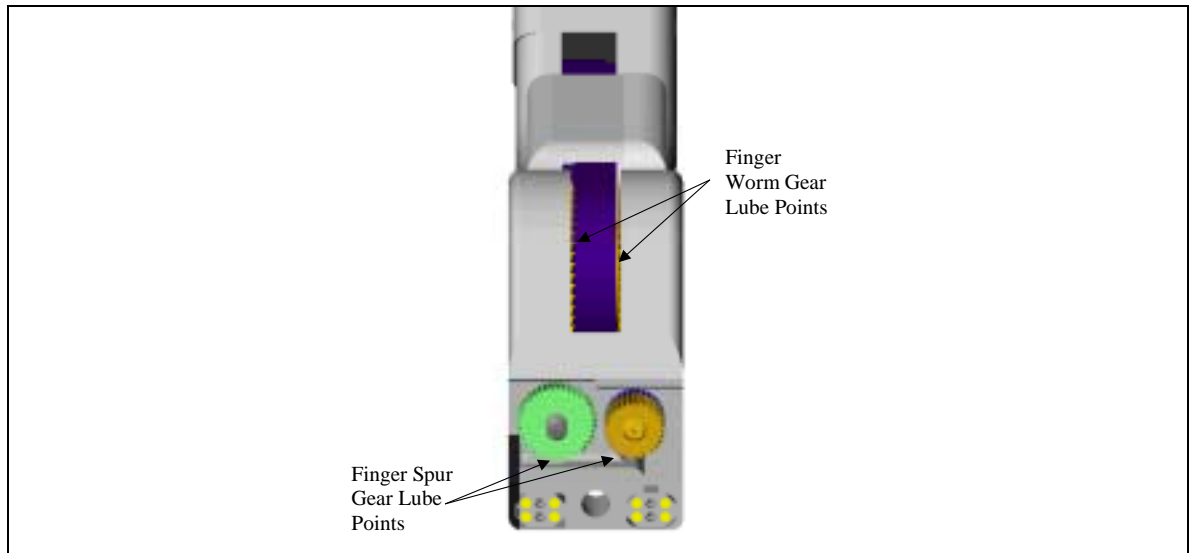

Figure 11 - Lubricant Application Points
Each BarrettHand™ unit has been lubricated and tested prior to shipping. Periodically, lubrication must be reapplied to areas with high probability of lubricant flow. Use the grease syringe to apply Mobil 1® Synthetic Grease (both included with the maintenance kit) to all exposed gear teeth at the application points according to Figure 11 and the schedule in Table 6.
7. Using the Mobil 1® Synthetic Grease syringe supplied with your maintenance kit, apply a generous amount of lubricant around the motor pinion cavity of the motor. Cover all gear teeth with a thick bead of grease. See Figure 11 for lubrication points.